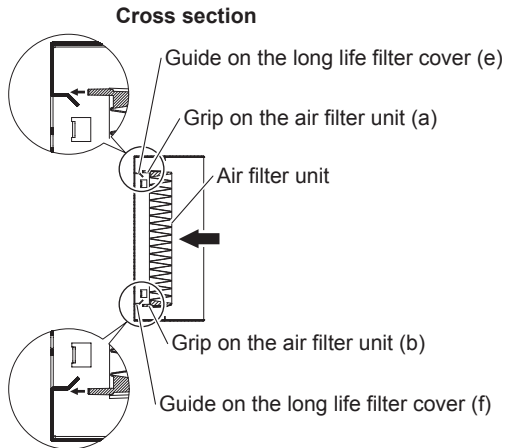

Fig. 2
- Align the position so that the grips on the air filter unit (a) and (b) will be outside the guides on the long life filter cover (e) and (f), and push in the direction of the arrow by holding the outer frame of the air filter unit. (Fig. 2)